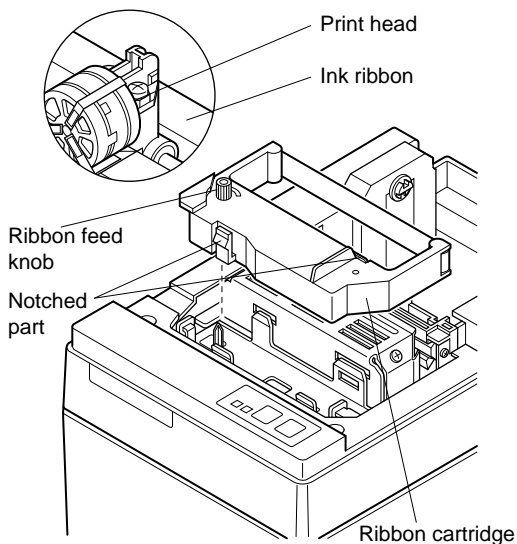

Fig. 4-2 Loading the ribbon cartridge
- 3 Place the ribbon cartridge in the direction shown in Fig. 4-2 and press it down to load it. If loading of the ribbon cartridge is not satisfactory, press down the cartridge while rotating the ribbon feed knob in the direction of the arrow.